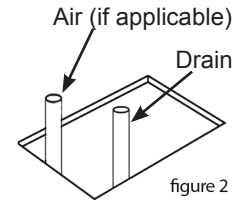

figure 2
3. Determine the location of the drain pipe, and air line (on units with remote blower location on Air Massage Systems) on the floor by taking measurements of the drain and waste location underneath the unit (figure 2).